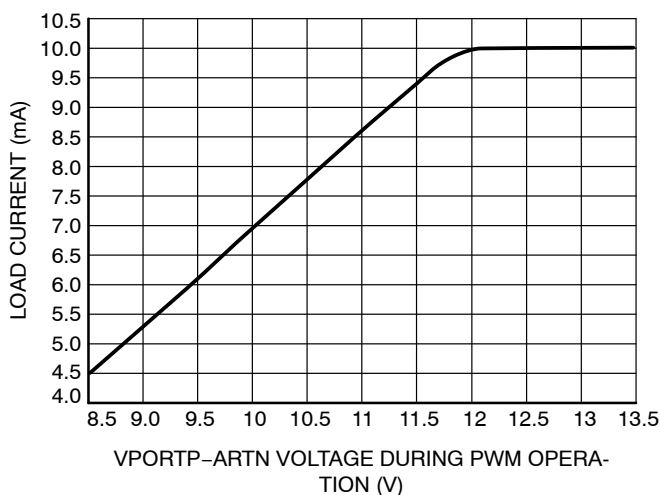

Figure 6. (Ivddl\_load)max with Auxiliary Supply Operation
- See Figures 6 and 7 for specifications on the load current at lower or higher VPORTP-ARTN voltages. In case the application requires more current capability on VDDL and VDDH, it is recommended to externally supply the VDDH pin with a bias winding from the transformer or to add a diode between VAUX(+) and VDDH pin (verify the VAUX voltage does not exceed the VDDH voltage range).